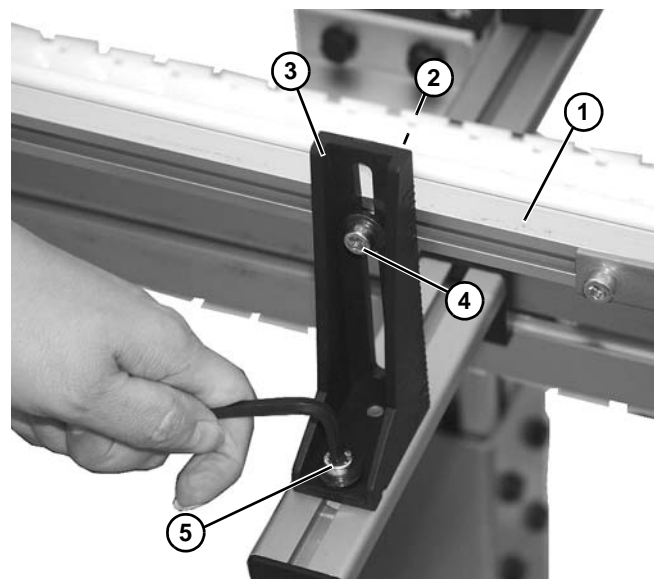

Figure 44
4. Install guide rail (Figure 44, item 1) onto square nut (Figure 44, item 2) onto mounting bracket (Figure 44, item 3) with socket head screw (Figure 44, item 4) or handle (Figure 45, item 1) for tool-less guiding.
5. Loosen socket head screw (Figure 44, item 5) or handle (Figure 45, item 2) and adjust mounting bracket (Figure 44, item 3) as needed.
10. To adjust guiding width loosen screws (**Figure 44, item 5**) or handle (**Figure 45, item 2**). Adjust to desired width. Tighten screw or handle.
11. To adjust guiding height loosen screws (**Figure 44, item 4**) or handle (**Figure 45, item 1**). Adjust to desired height. Tighten screw or handle.